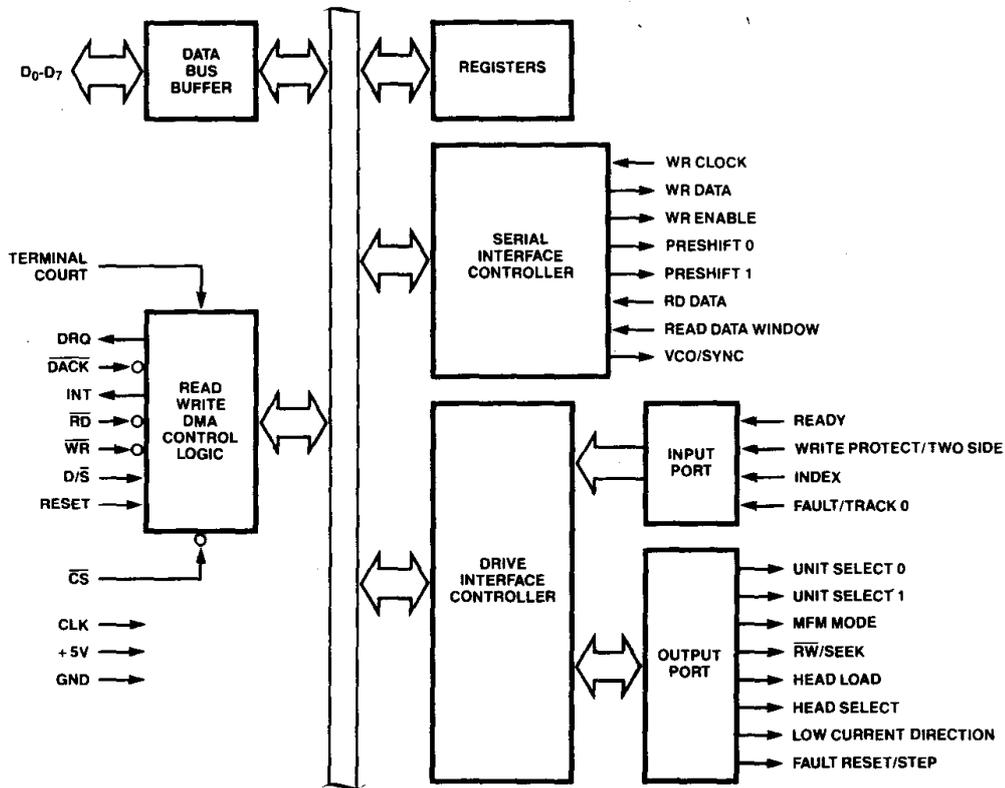

Figure 1. Z765A FDC Block Diagram
The Z765A is an LSI Floppy Disk Controller (FDC) chip which contains the circuitry and control functions for interfacing a processor to four floppy-disk drives. It supports IBM System 3740 Single Density format (FM) and IBM System 34 Double Density format (MFM) including double-sided recording. The Z765A provides control signals which simplify the design of an external phase locked loop and write precompensation circuitry. The FDC simplifies and handles most of the burdens associated with implementing a floppy-disk interface. (Figure 1).